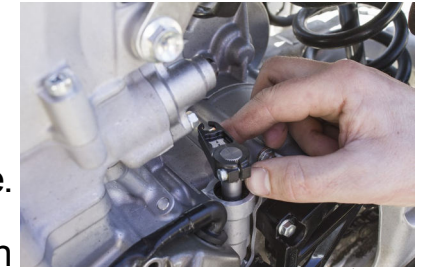

Figure 6
- Reinstall the Hinson actuator. (see figure 6)